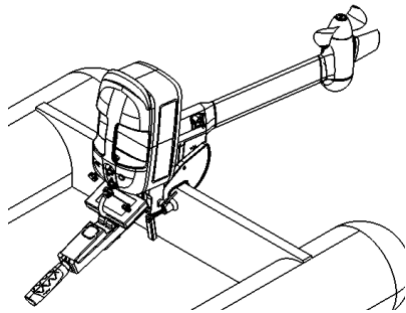

Figure 3-14
3. Lower the outboard to the desired pitch angle and then press down the propeller **pitch wrench** to the upper position, as shown in Figure 3-14.